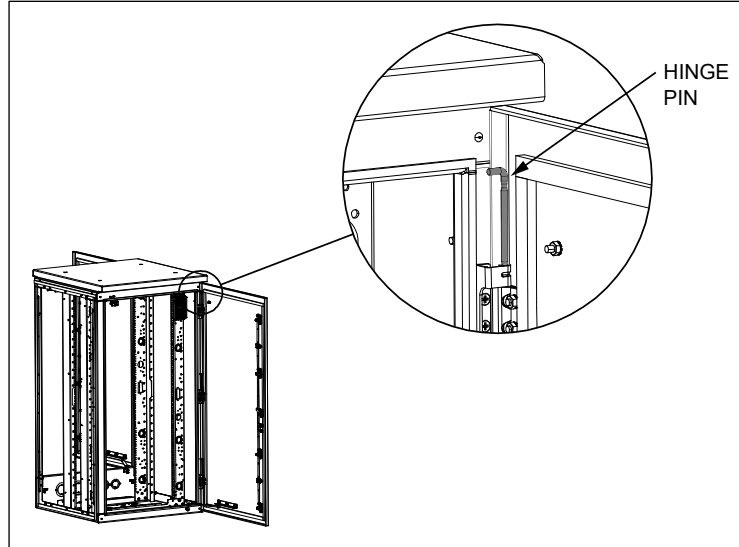

Figure 7 Remove Hinge Pins
- c. Move the hinge pin upward (Figure 7, hinge pin shaded in gray). A hammer or mallet may be needed to move the pin. The red hinge clip will pop out when the pin is raised. Save the clip.